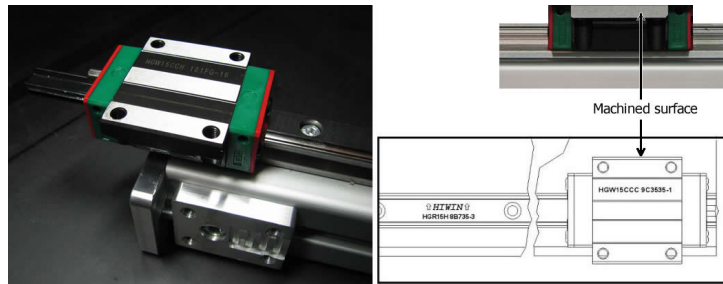

Figure 2.14:
- Carefully place the first Hiwin carriage on the rail. Note that the text of the carriage should be oriented in the same direction as the text on the rail; push the plastic tube out in the process as shown in figure 2.14: